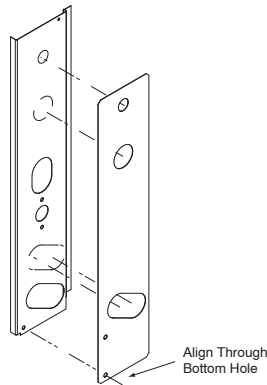

Fig. 9 - Use Header Plate as Template
- Cut new holes for liquid, suction and drain connections in the existing header panel. Use **new header plate** supplied with new coil as template to locate holes. Align bottom of new header plate to the bottom of the header panel as indicated in Fig. 9.